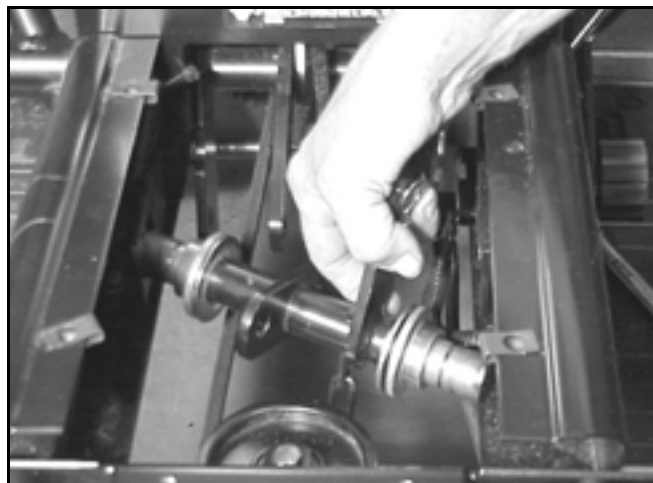

Figure 61
4. Remove the lift lever assembly from the pivot linkage brackets (Figure 61).